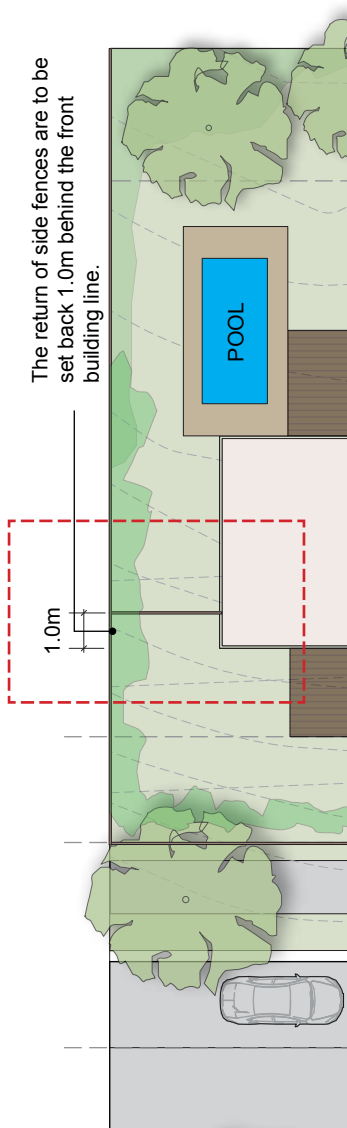

Figure 4.3 - Side Fence Setback
10. The return of side fences is to be set back at least 1.0m from the front building line, as displayed within Figure 4.3.